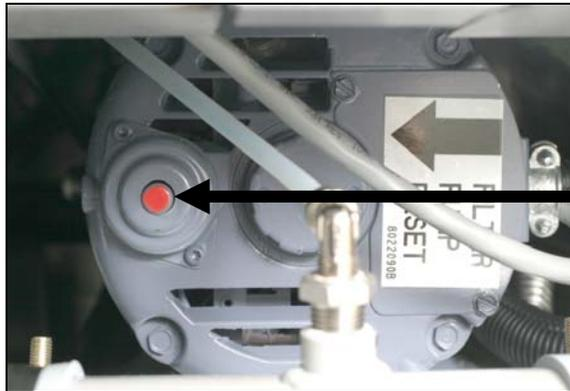

**Figure 6**
4. After the oil has drained from the frypot, rotate the filter handle towards the “I” to start the pump and begin the filtering process. There may be a slight delay before the pump activates (see Figure 6).